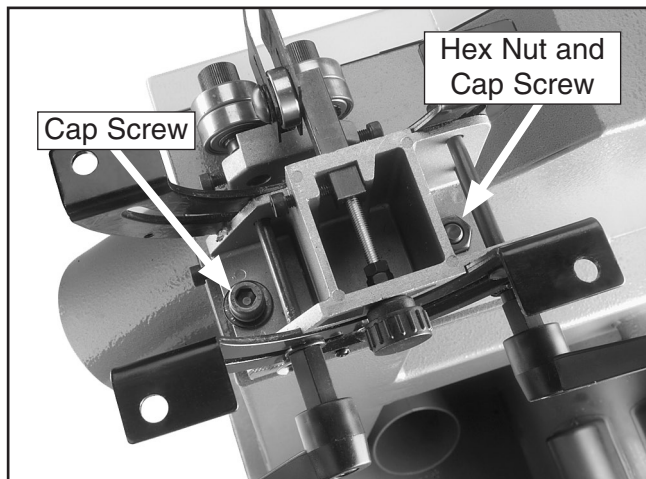

Figure 3 Cap screws and hex bolt.
5. Remove the cap screws and hex nut securing the trunnion to the bandsaw (**Figure 3**), then remove the trunnion.